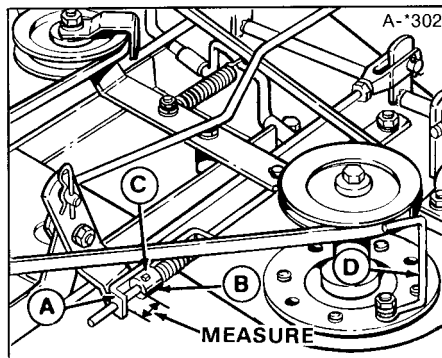
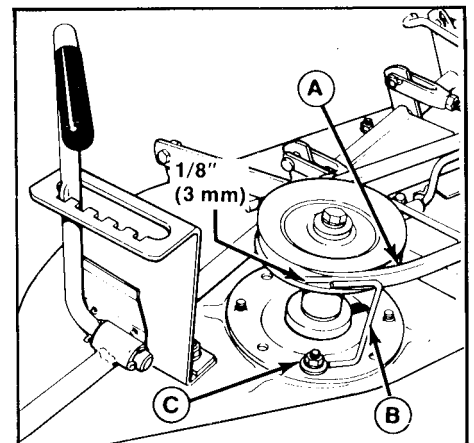

Figure 31. Drive Belt Tension
Figure 32. Right Arbor Belt Stop
mower in highest cutting position. Place the PTO lever in engaged position, the gap between the rod guide (A, figure 31) and the set collar (B) should measure $3/8$ to $1/2$ inch (10 to 13 mm). If not, disengage the PTO. Loosen the setscrew (C). Move the rod forward to increase the gap or back to decrease the gap then tighten the setscrew. Engage the PTO and recheck the adjustment. Readjust if necessary.
The arbor belt stops are item D in figure 31 and item B in figure 32. There should be $1/8$ inch (3 mm) clearance between the belt stops and belt when the PTO lever is engaged. If not, loosen the nut, move the belt stop and retighten the nut.